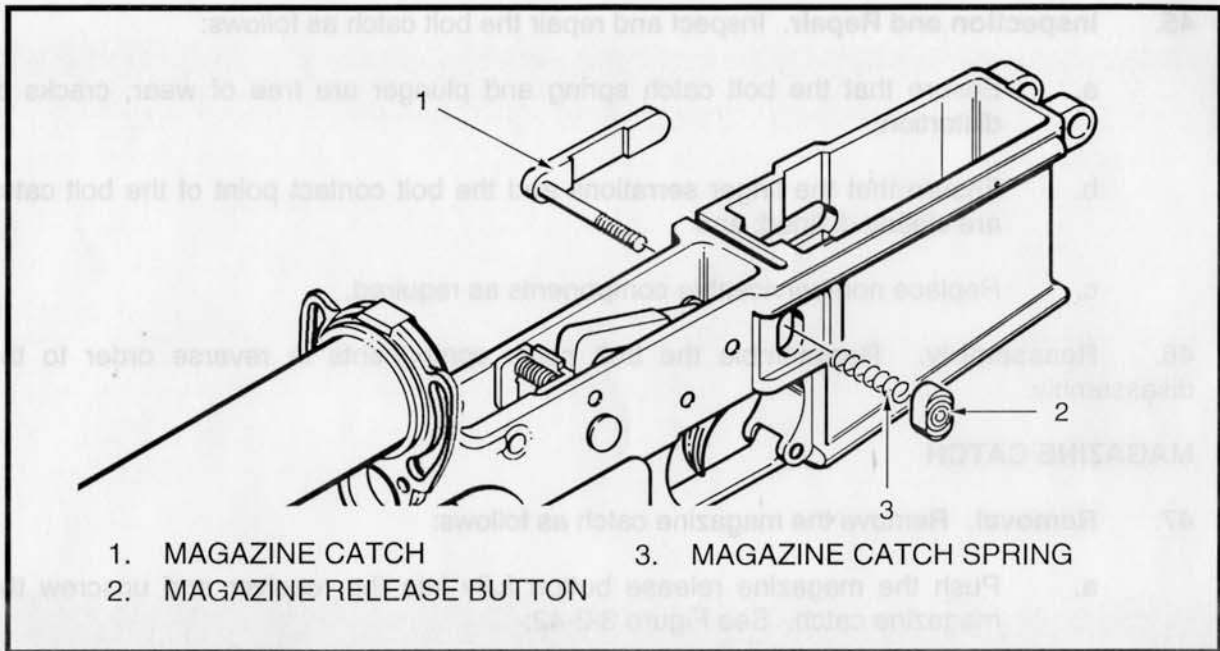

Figure 3-2-43 Disassembling the Magazine Catch
- c. See Figure 3-2-43. Remove the magazine catch (1), magazine release button (2) and magazine catch spring (3).